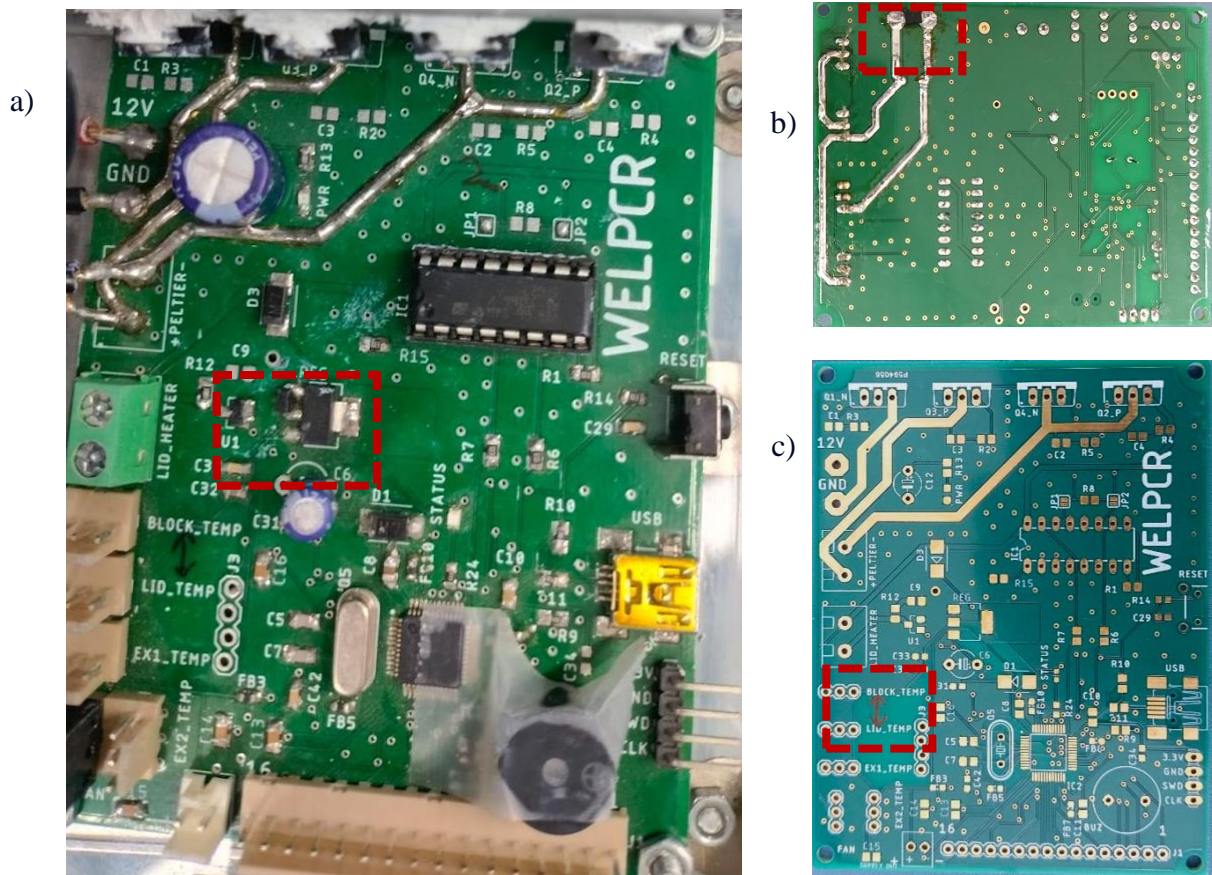

Figure 2: (a) Motherboard highlighting U1 and REG (b) 12V TVS diode
- Frontside: Do not forget to add a reg of value 5-10 k Ω in U1 and a Zener diode of 3.3V in reverse bias on the regulator (REG) as mentioned in the figure 2(a). These are implemented to protect the controller. Make sure to thicken the paths connecting the H-Bridge.